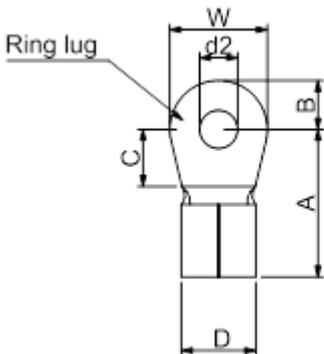
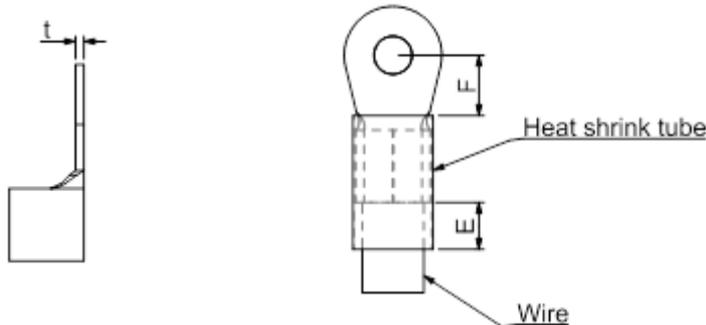

Figure 5-6
Figure 5-7
- Use the specified ring lug for main circuit terminal wiring. See Figure 5-6 and Figure 5-7 for ring lug specifications. For other types of wiring, use the wires that comply with the local regulations.
- After crimping the wire to the ring lug (must be UL and CSA approved R/C (YDPU2/8)), install heat shrink tubing rated at a minimum of 600 V_{AC} insulation over the live part. Refer to Figure 5-7.